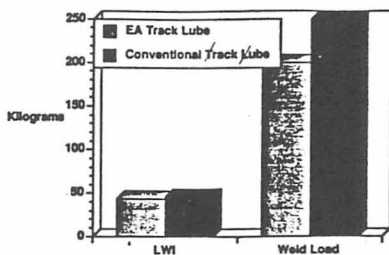

Figure 4: Extreme Pressure (EP) Performance 4-Ball EP test load wear index (LWI) & Weld Load
were virtually nontoxic while providing acceptable levels of EP/antiwear. Figures 4, 5 and 6 show extreme pressure (EP), wear, and load carrying performance for EA Track Lube compared to a conventional mineral oil track lube. In every case EA Track Lube performs acceptably compared to conventional mineral oil track lube.